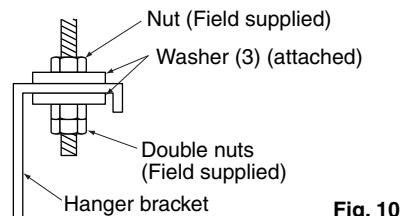

Fig. 10
(1) Secure the hanger brackets to the suspension bolts. (Refer to Fig. 10)